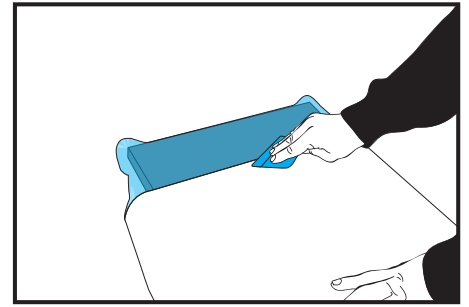

Figure 02
- ▶ Start the film application from one of the edges of the horizontal table or tray surface. (FIG. 02)